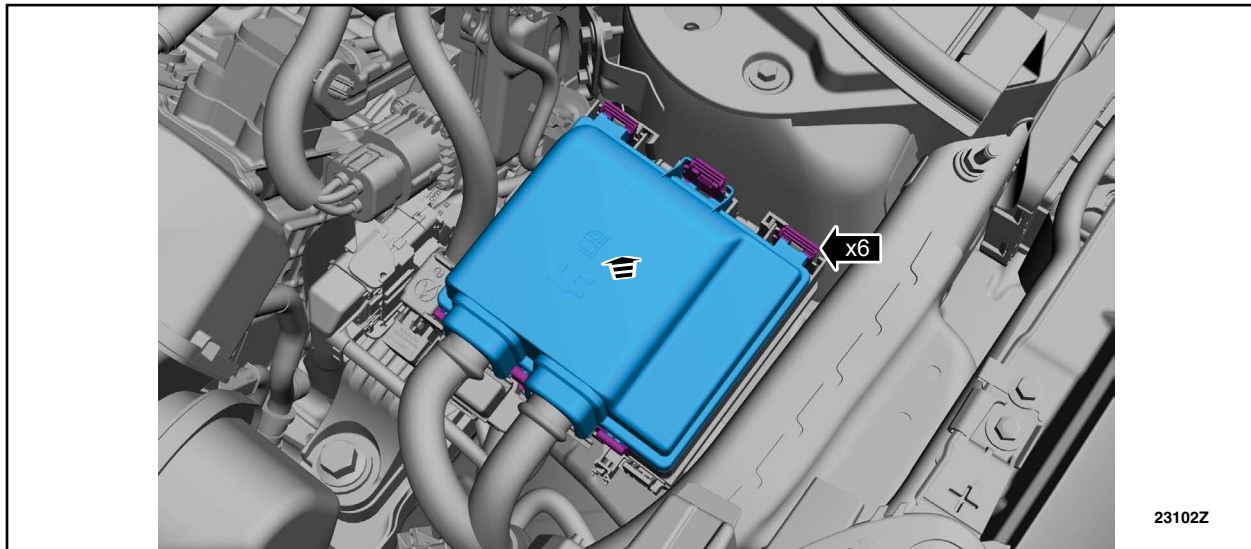

FIGURE 3
4. Release the tabs and battery junction box cover. See Figure 3.